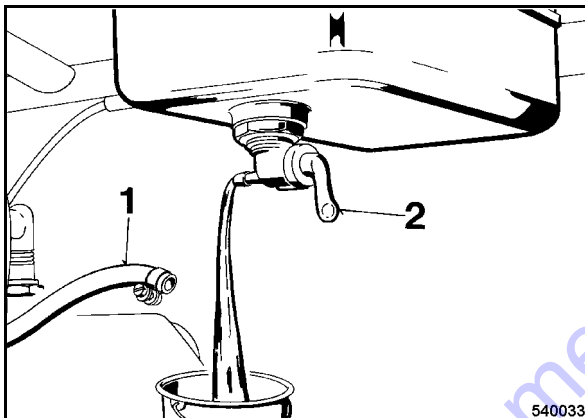

Fig. 50
- Disconnect the fuel hose 1 (Fig. 50) from the fuel shut-off valve (2). Open the fuel shut-off valve (2). Open the fuel shut-off valve, drain the fuel off.
- Unscrew the fuel shut-off valve (2).